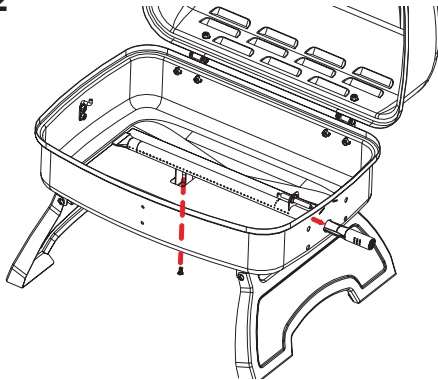

Fig. 2
Procedure: Insert the Burner through the opening on the right side of firebox, then attach to the bottom of the firebox using (1) M4x10 bolt as shown in Fig. 2.